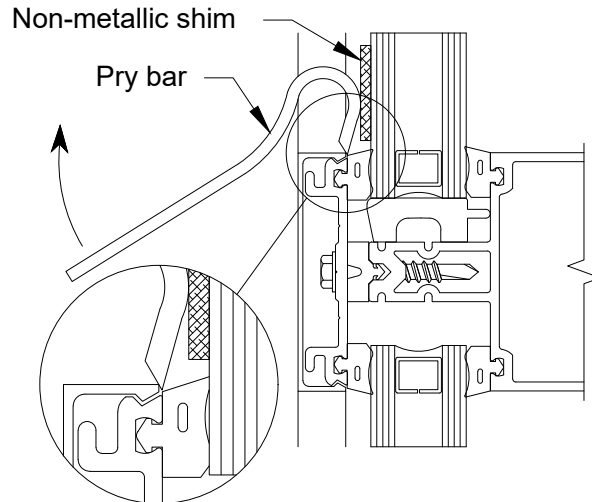

FIGURE 43
D.1 REGLAZING MUST BE DONE FROM EXTERIOR. Carefully remove face covers surrounding the lite of glass to be deglazed. If WW-520 / WW-420 mullions are used remove horizontal face covers only. **SEE FIGURE 43.**